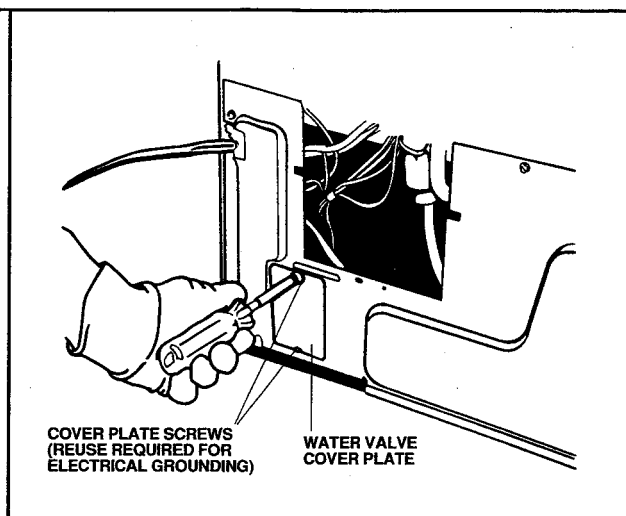

Figure 19
b. Remove and save the two (2) screws from the water valve cover plate. See Figure 19. Discard the water valve cover plate.